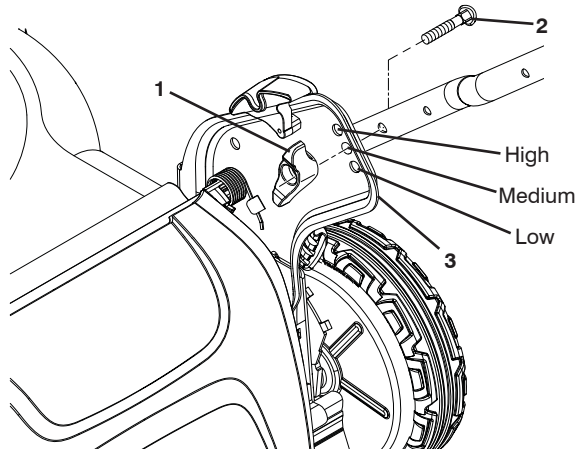

Figure 27
1. Remove knob and carriage bolt on one side of the lower handle (Figure 27).